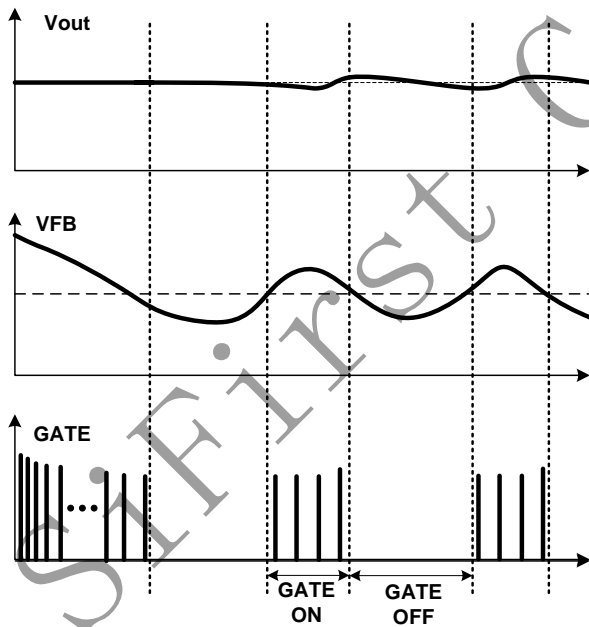

Fig.5
■ When zero or very light load conditions, the IC enters into burst mode. In the burst mode (as illustrated in Fig.5), the valley locking counting number is fixed at 8. In this way, a small standby power can be achieved.
When the loading is very small, the system enters into burst mode. When VFB drops below VFB\_min\_duty, SF5897 will stop switching and output voltage starts to drop, which causes the VFB to rise, as shown in Fig.5. Once VFB rises above VFB\_min\_duty, switching resumes. Burst mode control alternately enables and disables switching, thereby reducing switching loss in standby mode.